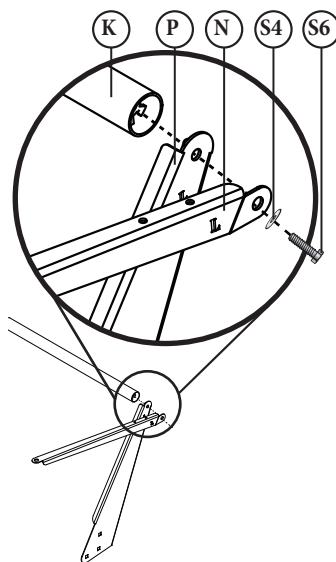

FIG. 8a
Align the Left Brace (N) with the hole on the Left Bracket (P). Secure to the Cart Handle (K) using a Hex Head Bolt (S6) and Flat Washer (S4) as shown in [FIG. 8a].